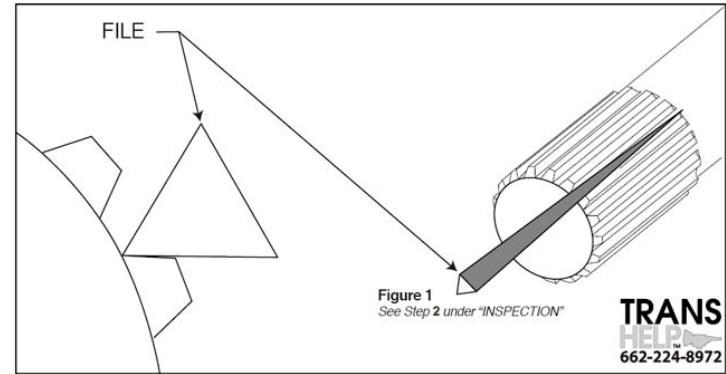

Figure 1
**Step 2** Inspect splined couplings (input shaft and stator support) for burrs and damage. **A burred or damaged spline can cause installation to be difficult if not impossible.** A burred spline can easily be corrected. Using a small triangle file, as shown in **Figure 1**, remove all burrs the full length of the spline. After all burrs have been removed, position a straight edge in the same manner as the triangle file. Using the straight edge as a guide, check to make sure the splines are not twisted. Twisted splined shafts should be replaced.